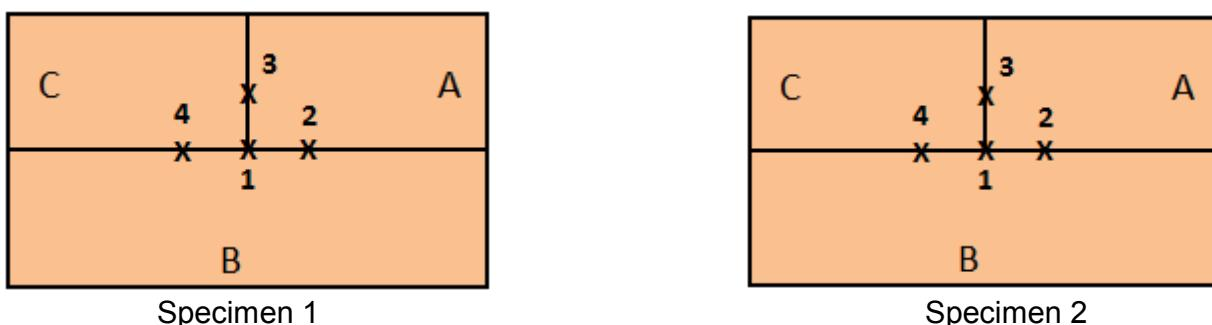

Figure 4 – Test Locations on Assembled Planks Two side by side specimens, 1 and 2
- 6) Mark test locations at  $1 \frac{1}{2}''$ (38.1 mm) on three sides of the center length mark - See Figure 4.